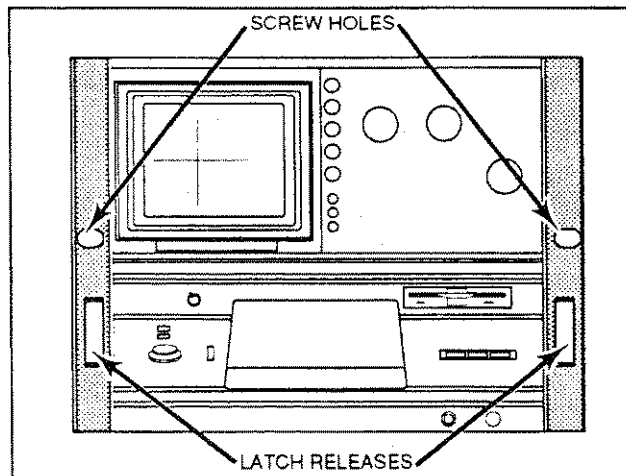

Figure 1-1. Location of the Rackmount Latch Release.
**Latching.** The 370A incorporates a spring-latch design built into the rackmounting ear. To release, pull the rackmount latch release (see Figure 1-1). To re-latch, push the rackmount latch release until the spring latches engage.
For those applications that require additional rackmounting security, the rackmounting ears of the 370A are drilled for screw fasteners (see Figure 1-1).
6. Extend the instrument out of the rack by pulling the rackmount latch releases on the front panel (see Figure 1-1) out to disengage the spring latches. Then, pull the instrument out.